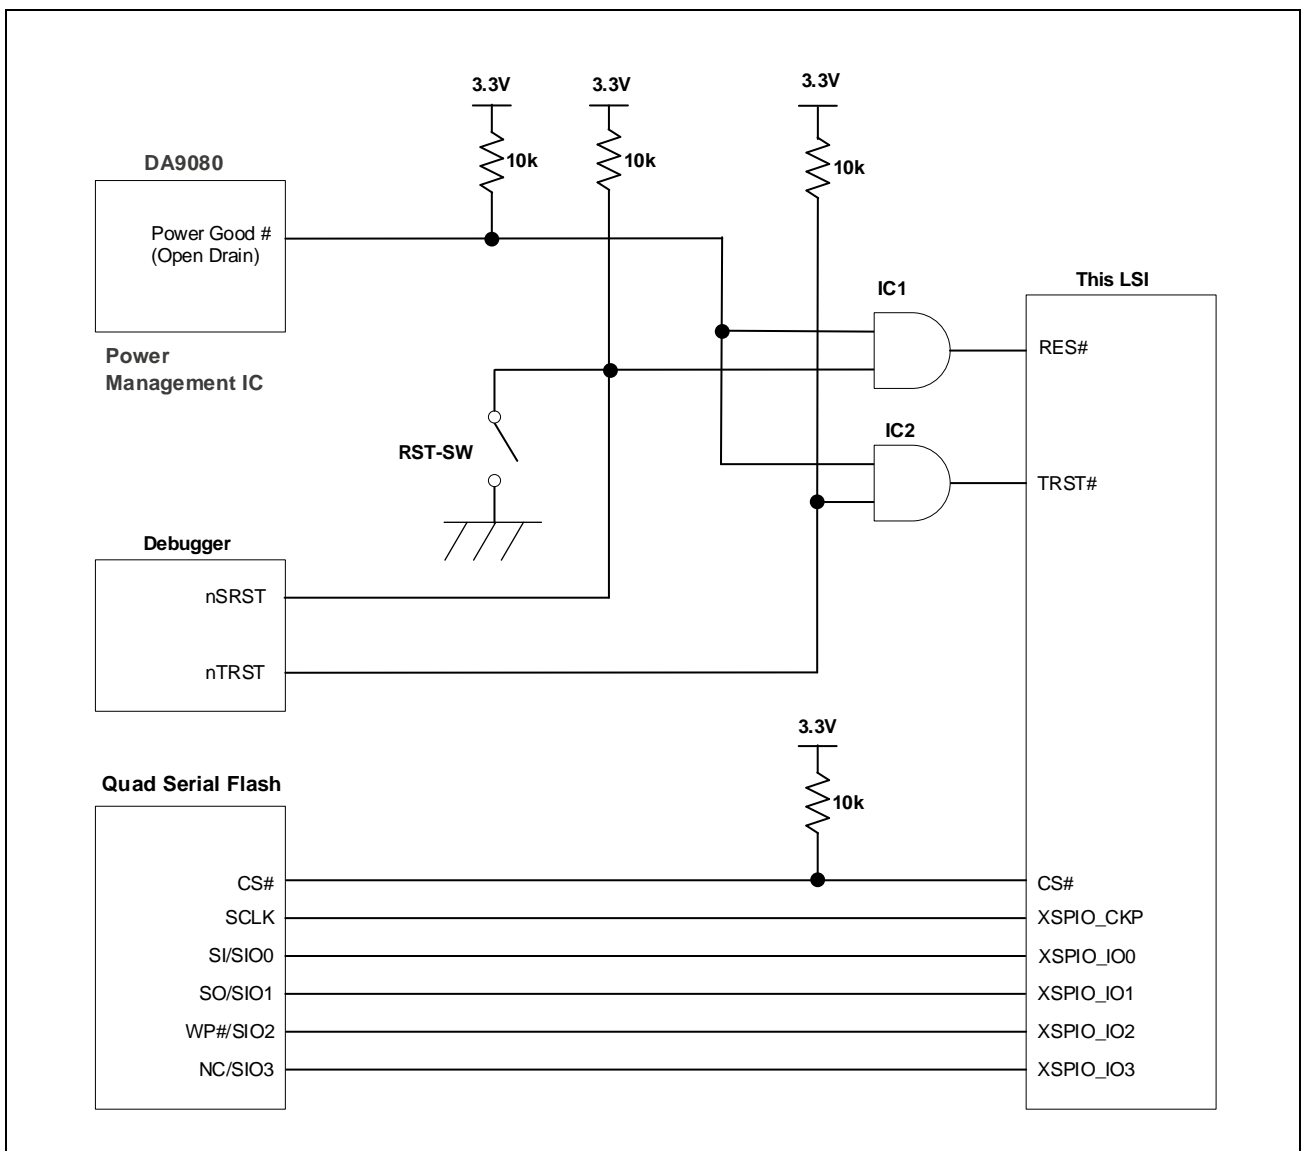

Figure 4.2 Connection example of Quad serial flash without reset pin
- (1) Leave the protocol mode of the serial flash as 1S-1S-1S.
- (2) Use 1S-xxxx (command is 1S).
**Figure 4.2** shows a connection example of a Quad serial flash without a reset pin.